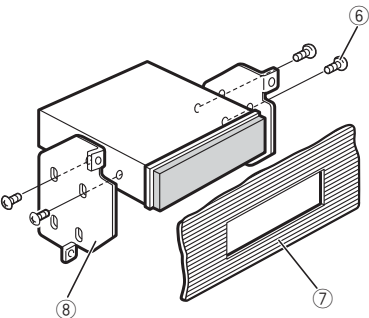

Fig. 6
2. **Tighten two screws on each side. (Fig. 6)**
- ⑥ Screw
- ⑦ Dashboard or Console
- ⑧ Factory radio mounting bracket